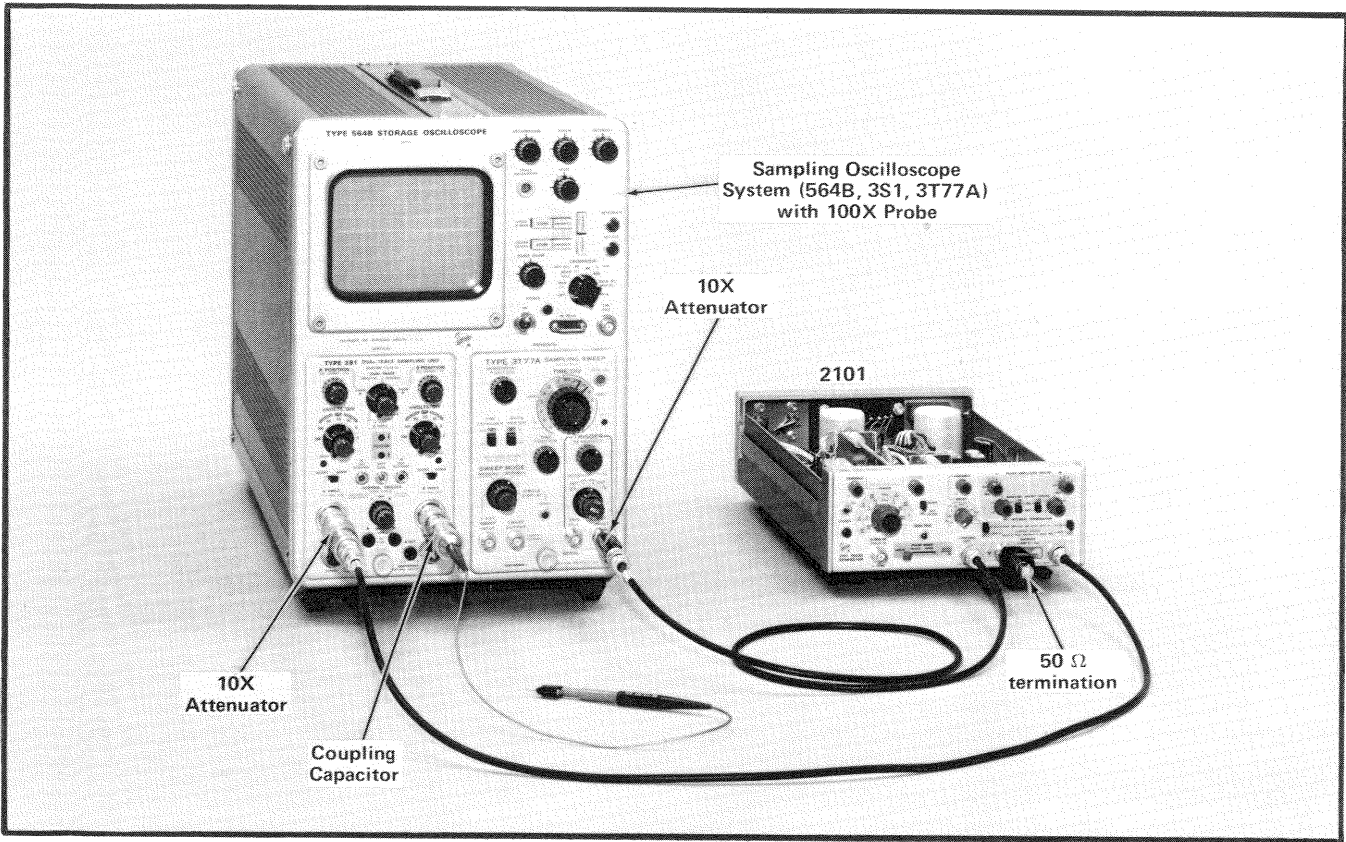

Fig. 5-4. Test equipment setup to check/adjust UNDLY'D and DELAYED trigger sensitivity.
- a. Equipment setup is shown in Fig. 5-4. ①